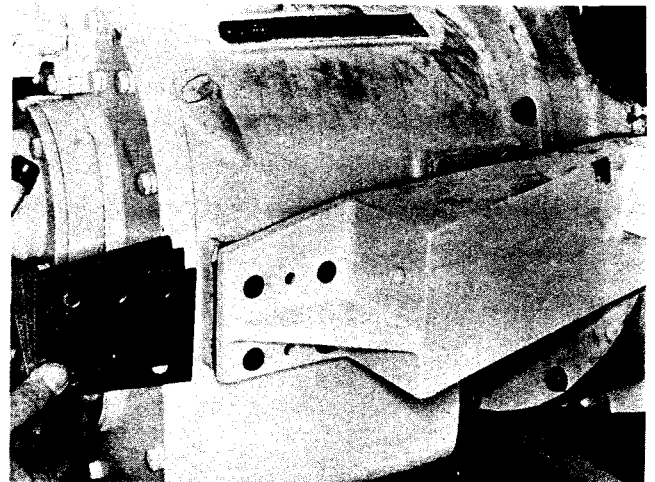

Fig. 5-10, (V22034). Installing shims for marine gear alignment
10. Install shims removed during disassembly over dowels; position mounting brackets on dowels, secure and position to marine gear and flywheel housing with lockwashers and capscrews. Fig. 5-10.